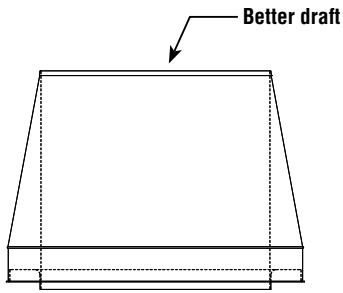

Figure 46 - Finishing Cone (FC)
1. Used to create a better draft when installed at the top of the chimney, see **Figure 46**.